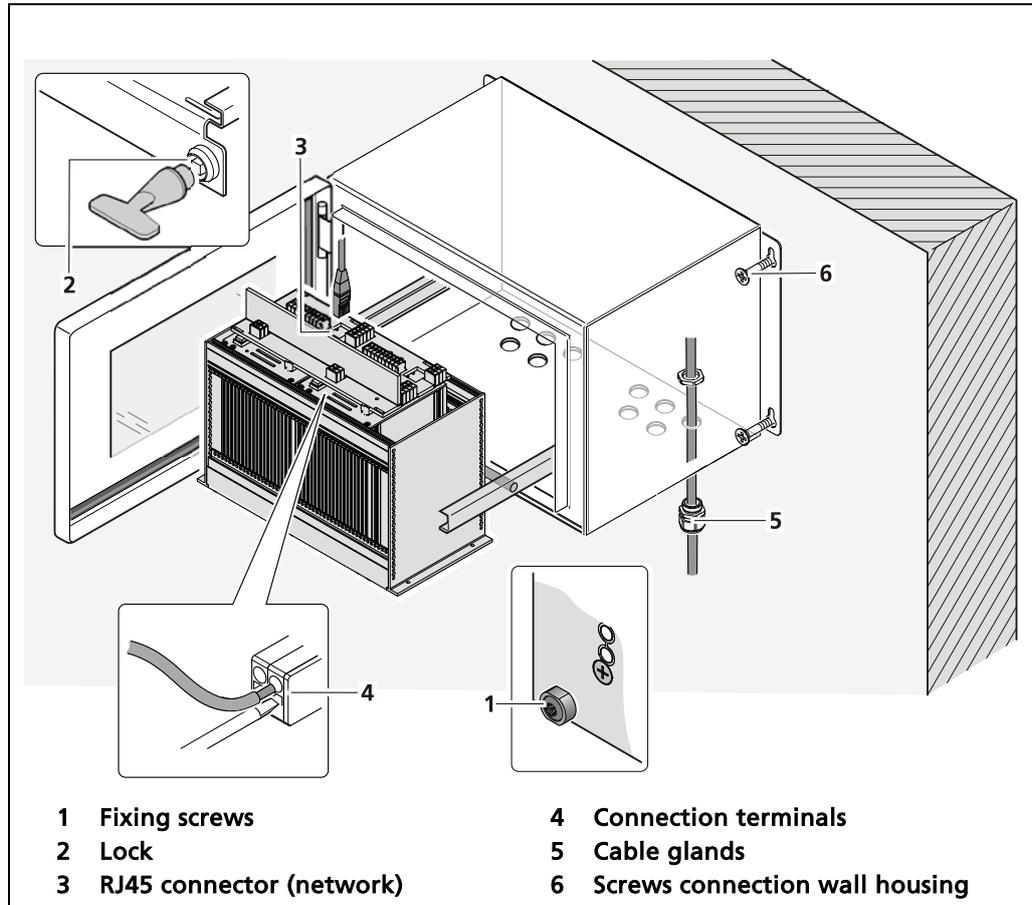

Fig. 124 Decommissioning wall housing
2. Make sure that the fixing screws (Fig. 124, item 1) of all modules are tightened in order to prevent slipping.
3. Loosen the lock (Fig. 124, item 2) using the supplied square key and pull the subrack out.
5. Remove the network plug (Fig. 124, item 3).
6. Remove all lines from the terminal panel (Fig. 124, item 4).
7. Loosen the cable glands (Fig. 124, item 5) on the bottom side of the wall housing and pull all cables from the wall housing.
9. Loosen the screws (Fig. 124, item 6) and remove the wall housing.